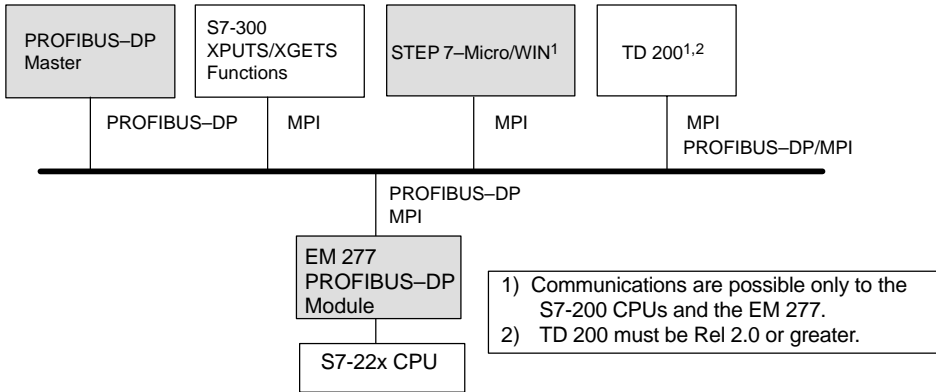

Figure A-24 PROFIBUS-DP/MPI Network
A maximum of six connections (six devices) in addition to the DP master can be connected to the EM 277 PROFIBUS–DP module. One connection is reserved for a programming device (PG) and one is reserved for an operator panel (OP). The other four connections can be used by any MPI master. In order for the EM 277 PROFIBUS–DP module to communicate with multiple masters, all masters must be operating at the same baud rate. See the Figure A-24 for one possible network configuration.